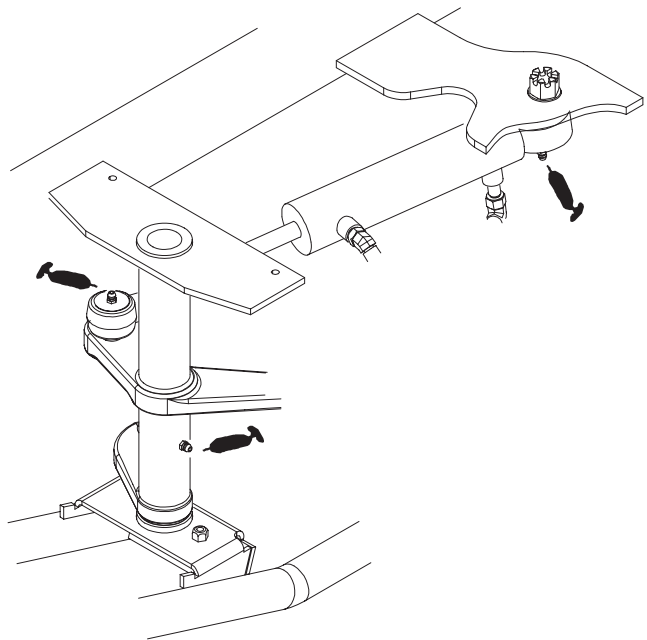
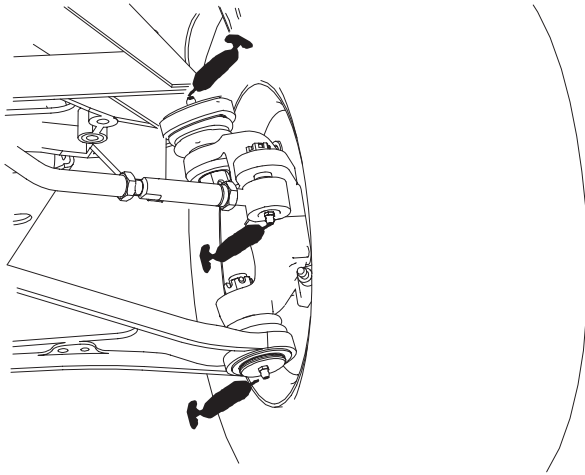
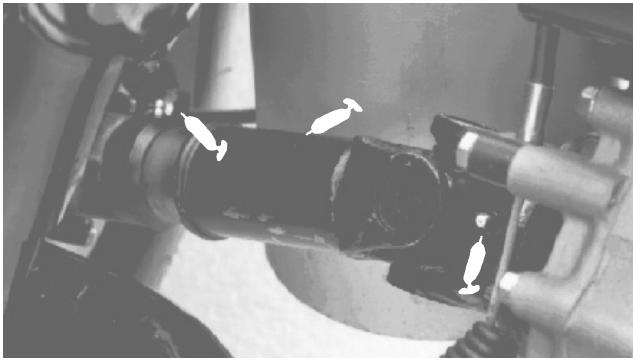

Figure 22
Figure 23
Figure 24
The grease fitting locations and quantities are: Steering pitman arm (1) and Steering ball joint ends (2) (Fig. 22), Tie rod ends (4) (Fig. 23), Front ball joints (4) (Fig. 23), Rear drive shafts (18) (Fig. 24), Pedal Pivots (4) (Fig. 25); and Front pivot bushings (2) (Fig. 26).